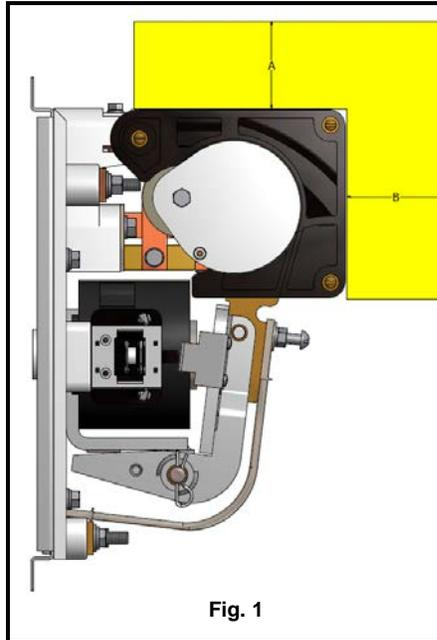

Fig. 1
Mount the contactor vertically on a rigid support. Refer to Figure 1 for proper clearances above the top of the contactor, dimension A, and in front of the Arc Shield, dimension B, for arcing clearance, and Arc Shield removal. Check nameplate data for correct equipment. Check that the contactor operating coil (27) is the correct voltage. With all power removed, pivot the Arc Shield (11) upwards and operate the contactor by hand. The contact tips (15) should meet SQUARELY. If they do not, align them by the procedure in the Contact Tip Adjustment. Pivot the Arc Shield back to its proper position. **CAUTION: DO NOT OPERATE THE CONTACTOR UNDER LOAD UNLESS THE ARC SHIELD IS PIVOTED TO THE FULLY DOWN POSITION**